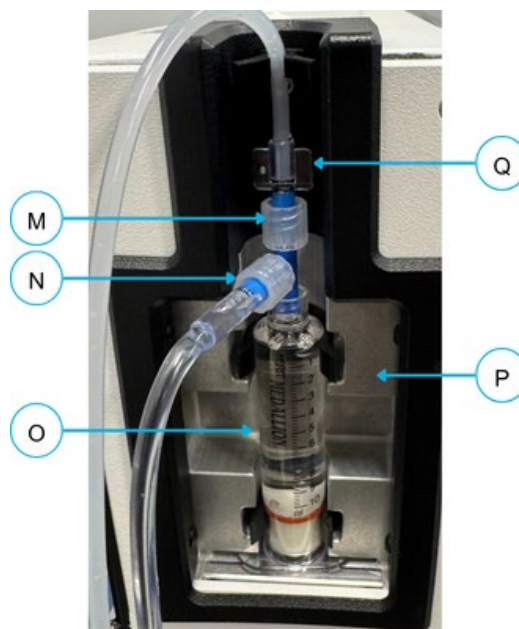

Figure 11-6: Auto-Refill Syringe Connections
1. Remove the Auto-Refill Syringe (O) from the Generator cavity to help make the Water Line connection (Figure 11-6).